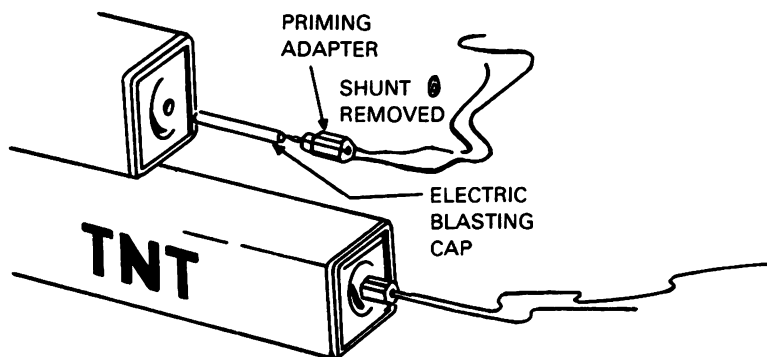

Figure 1.
1. To prime a demolition block with a threaded cap well and priming adapter available (figure 1):